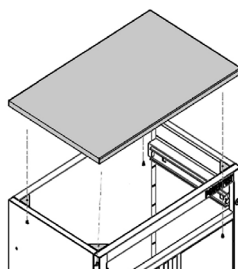

Figure 4
5. Attach a mounting bracket (#7) in each corner with M4 x 10 screws. Make sure each bracket is level with the top of the cabinet (Fig. 4).
6. Attach the wooden worktop (#12) to the brackets. Screw one M5 x 10 self-tapping screw (#13) through each bracket from inside the cabinet into the worktop (Fig. 4).